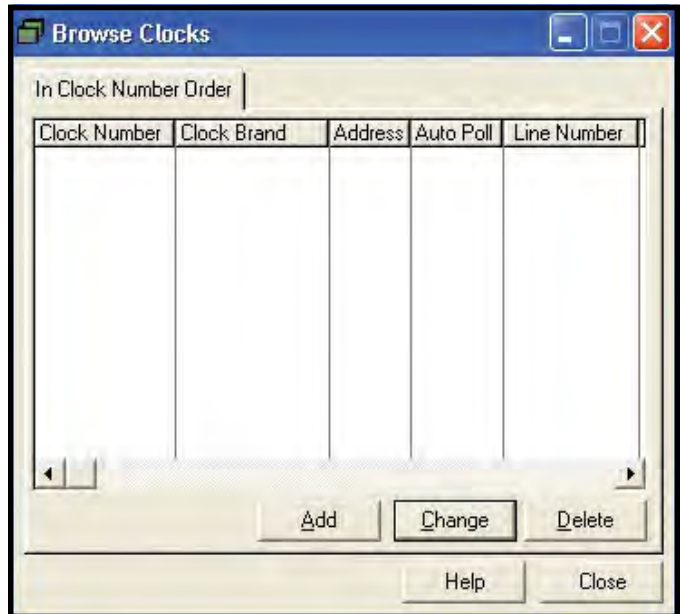

Figure 19. Out-of-the-Box™, Browse Clocks window
6. Click the “Add” button in the “Browse Clocks” window (see Figure 19).